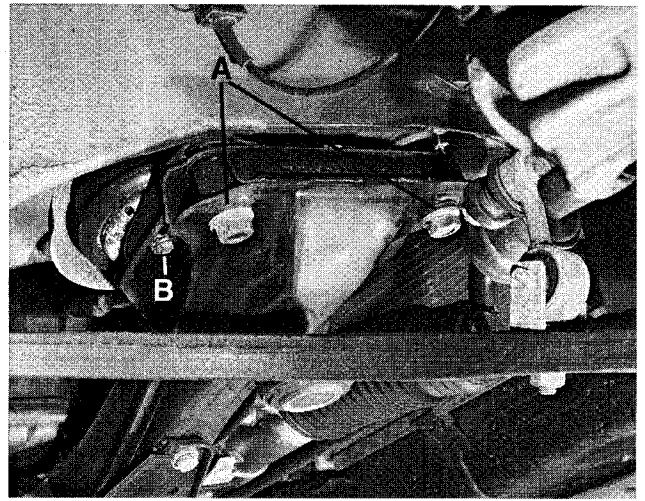

Fig. 4. Suspension crossmember bolts (A) and lower engine mounting nut (B). Right side shown.
10. Remove bolts from left and right sides of suspension crossmember. Remove M10 nuts from bottom of left and right engine mounts. Lower crossmember as far as possible. See Fig. 4.